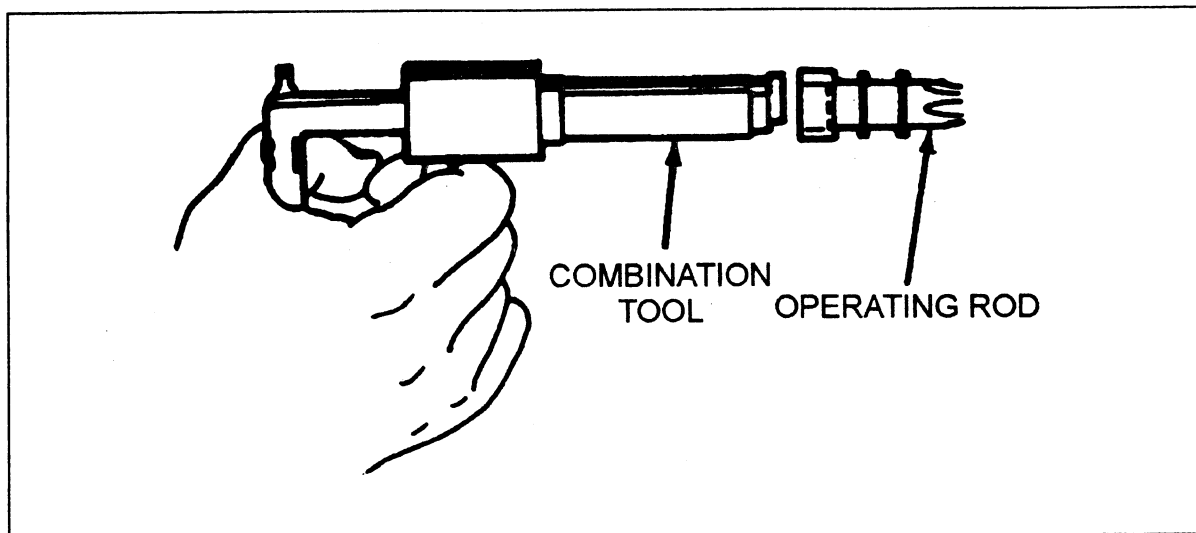

Fig 1-27. Cleaning piston cavity.
- (6) Insert the combination tool into the cavity of the piston end of the operating rod. Squeeze the handles firmly. Twist the combination tool back and forth to remove carbon (see fig 1-27).